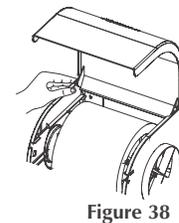

Figure 38
13. To finish installing the front cover slightly deflect the top/rear of the opposite side panel and insert the other peg into the round slot (Fig. 38).